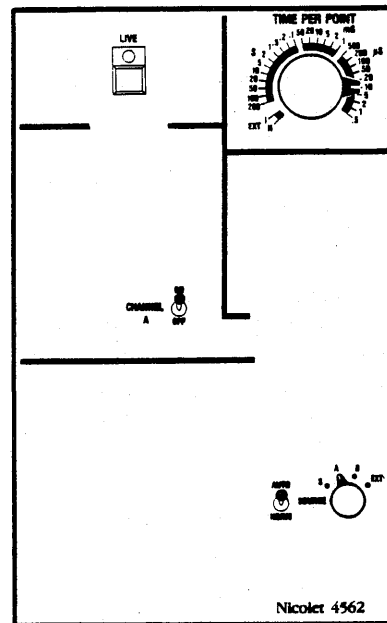

Figure 6-3
- #2. Make the following settings (Figure 6-3).